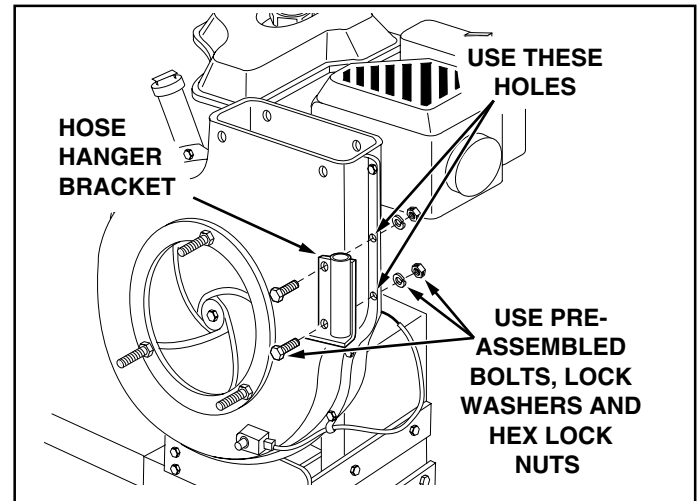

FIGURE 17
29. Remove the hex bolts, lock washers and hex lock nuts from the two holes in the impeller housing shown in figure 17. Assemble the hose hanger bracket to the impeller housing using the bolts, lock washers and lock nuts which you removed.